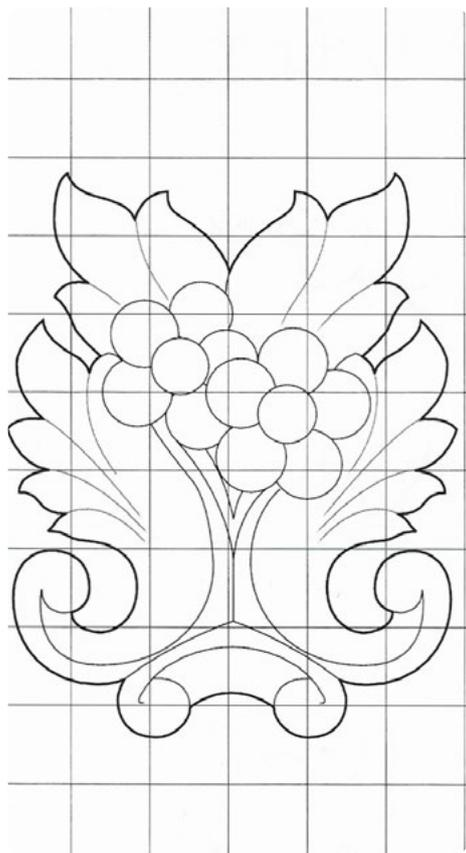

Figure 1.
1. Enlarge the drawing in **figure 1** to scale, by making sure that each grid of the square measures 20mm.